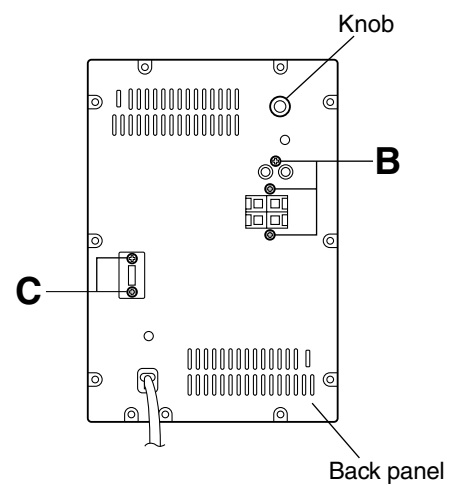

Fig.3
■ Removing the back panel (See Fig. 3.)